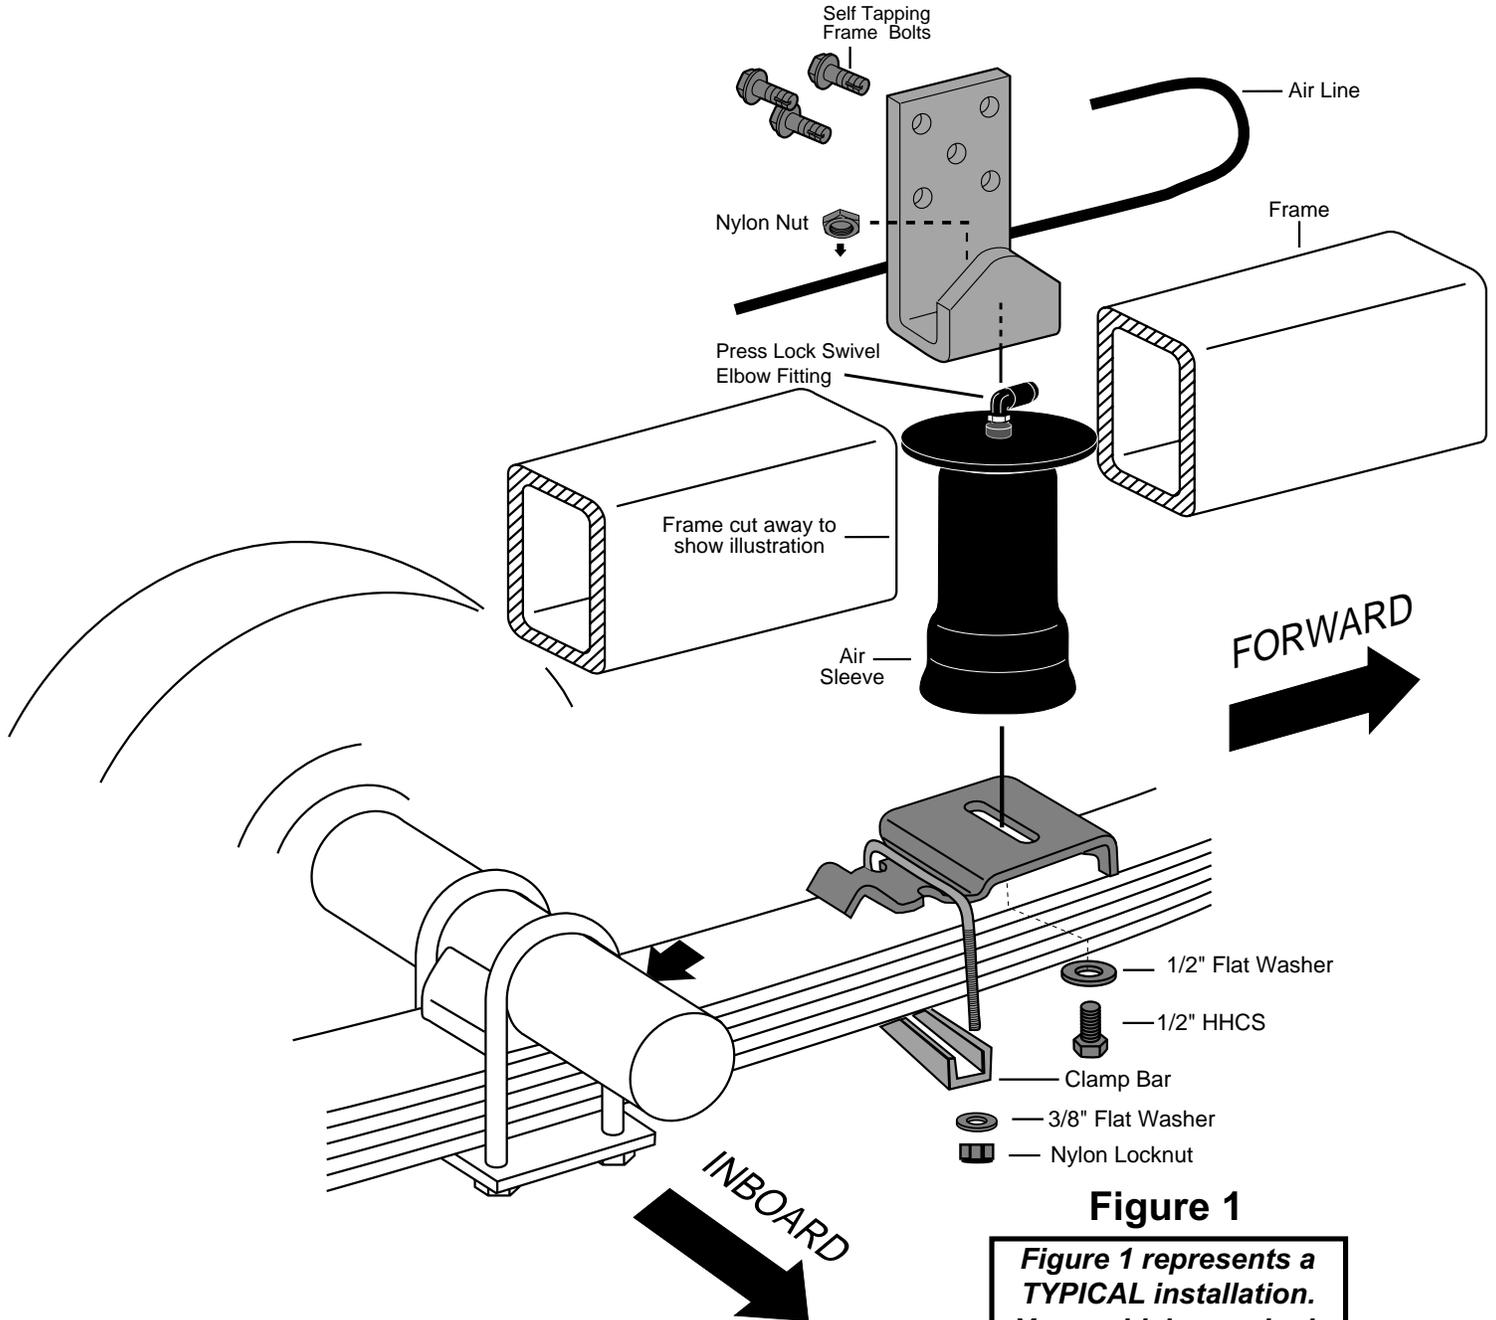
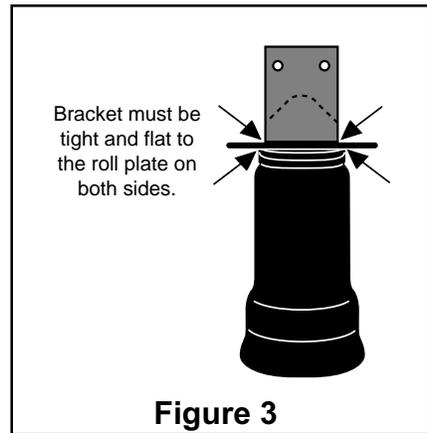
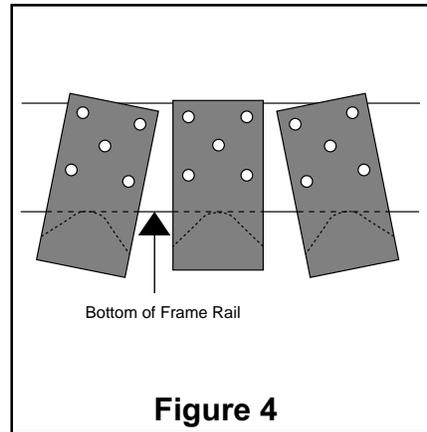

Figure 1
Figure 3
Figure 4
Figure 1 represents a TYPICAL installation. Your vehicle may look slightly different due to make, model or year.
1. Jack up rear of vehicle or raise on hoist and remove rear wheels. Install swivel air fitting and tighten finger tight plus one and a half turns. **Use a 7/16" open end wrench being careful to tighten on the metal hex nut only. DO NOT OVER TIGHTEN.** This fitting is pre-coated with thread sealant. Now set the upper bracket onto the thread post of the air spring. Thread nylon nut onto the thread post with the flat side up. The bracket must be tight and flat to the roll plate on both sides. Hand tight is sufficient (Figure 3). Be sure the swivel air fitting faces the front of the vehicle. **LOOSELY** attach the lower bracket to the bottom of the air spring (Figure 1).
2. Set the assembly on the leaf spring in front or behind depending on what would interfere with function of kit. It is permissible to stagger kit also in case shocks or brake lines would interfere with kit. The lower bracket has a “finger” that is designed to “hook” around something like a U-bolt, spring retainer or spring perch (Figure 5). This keeps the lower bracket from “walking” up the spring which would cause damage to the air springs. If your vehicle does not have something for the “finger” to “hook” to, install the L-bracket supplied in this kit for that function. Refer to SB-171 for instructions on how to install the L-bracket. With lower bracket in place install U-bolt, clamp bar, flat washer and locknut. Torque to 16 ft.-lbs. (Figure 1).
3. The upper bracket must be parallel and perpendicular to the lower bracket (Figure 6). The upper bracket is designed so that it can be “titled” for the proper angle (Figure 4). The bottom of the upper bracket must fit tight to the bottom of the frame rail (Figure 7). It is necessary to use at least three of the five pre-drilled mounting holes in the upper bracket. Any combination of three is permissible. **CAUTION: DO NOT DRILL HOLES INTO THE FRAME UNTIL ANY HYDRAULIC LINES, GAS LINE AND ELECTRICAL WIRES HAVE BEEN MOVED ASIDE ON BOTH SIDES OF FRAME RAIL.** Using the bracket as a template, center punch and drill three $\frac{5}{16}$ ” holes. **The holes must be no larger than $\frac{5}{16}$ ”.** Attach the upper bracket using the Self-Tapping Frame Bolts and tighten securely (Figure 1). **DO NOT OVER-TIGHTEN.**
If the vehicle's headlights are shining into the trees or the vehicle is leaning to one side, then it is not level (fig. 1). Raise the air pressure to correct either of these problems and level the vehicle.
Stability translates into safety and should be the priority, meaning the driver may need to sacrifice a perfectly level and comfortable ride. Stability issues include roll control, bounce, dive during braking and sponginess (fig. 3). Tuning out these problems usually requires an increase in pressure.